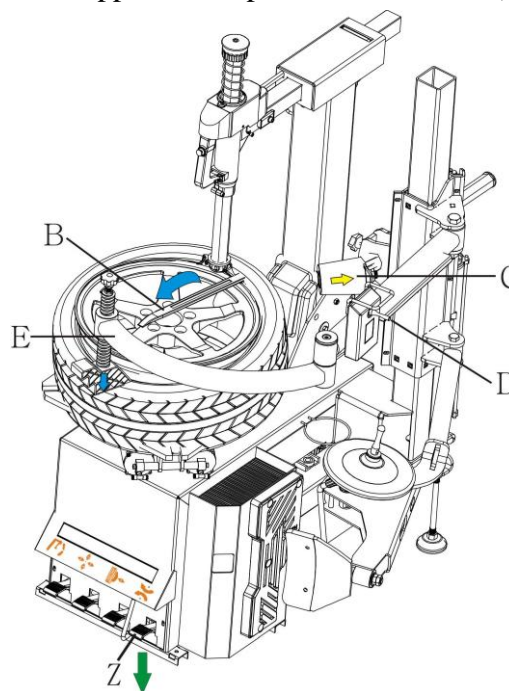

Fig. 11
- Raise the assistant arm and pull back the Roller C. Turn the arm E and put the block against the tyre on the other side of the mounting head. Press the switch D and turn it down, then pull the crowbar and make the bead upon the mounting head.(Fig. 11)
- Press the pedal Z to turn the working plate until the upper bead apart from the rim.. (Fig. 11)